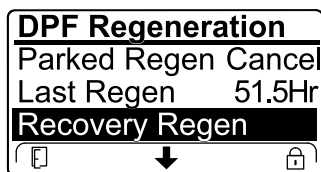

Figure 60
- If the engine computer has not requested a recovery regeneration and you scroll down to the RECOVERY REGEN option, the recovery regeneration locks and the lock icon (Figure 60) appears in the lower right corner of the InfoCenter.